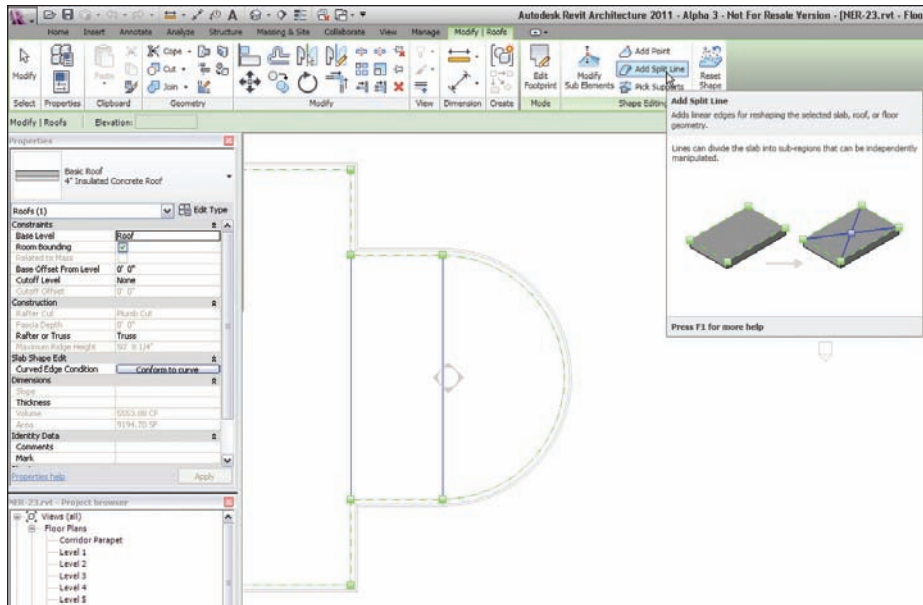

FIGURE 7.6 Start splitting the radial portion of the roof.
3. With the roof selected, select the Create Split Lines button shown in Figure 7.6.
4. Draw a line from the points shown in Figure 7.6.